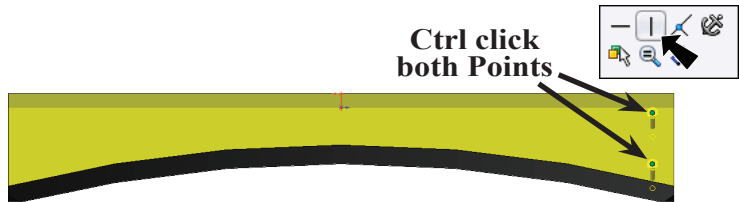

Fig. 28
Step 5. **Ctrl click both Points** to select both. Release Ctrl key and click **Make Vertical**  on the Content menu, Fig. 28.